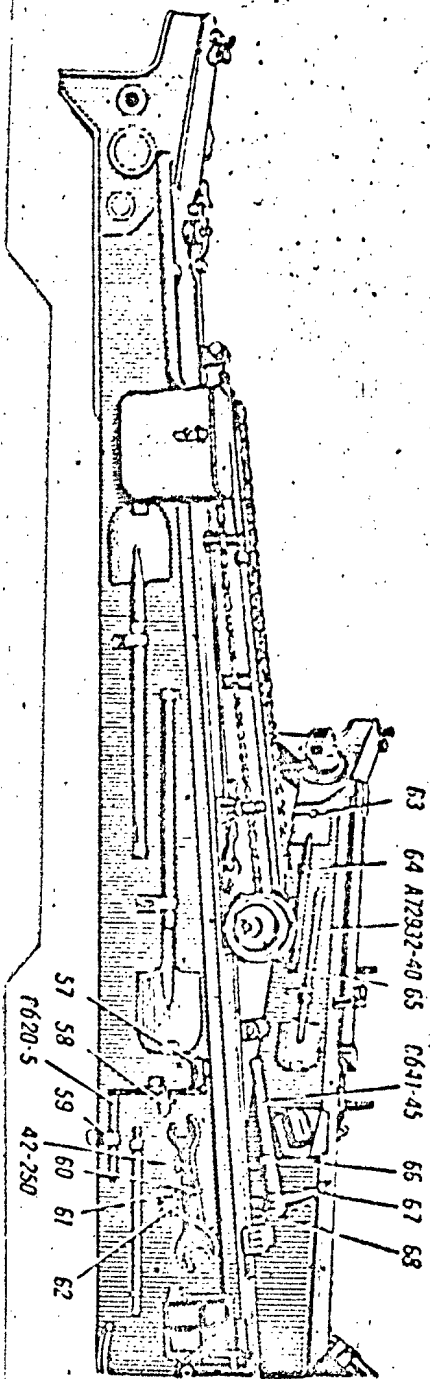

Fig 64. Trails. Attachment of Entrenching Tools
Bracket 57 (Fig 64), rest 58, and holder 59 fasten winch crank Sb20-5.
- supports 63 and 65 and holder 64 fasten spades A72932-40 (Fig 64);
- pin 60 (Fig 64), check 61, with chain, and two plates 62 fasten wrench 42-250;